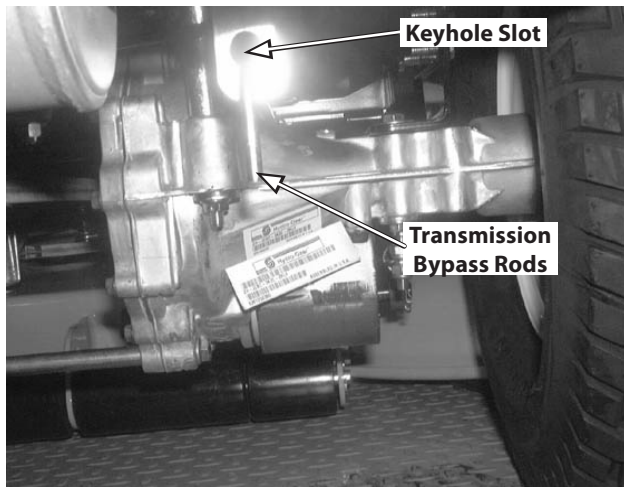

Figure 6-4
1. From just in front of the two rear tires, locate the transmission bypass rods. Refer to Fig. 6-4.